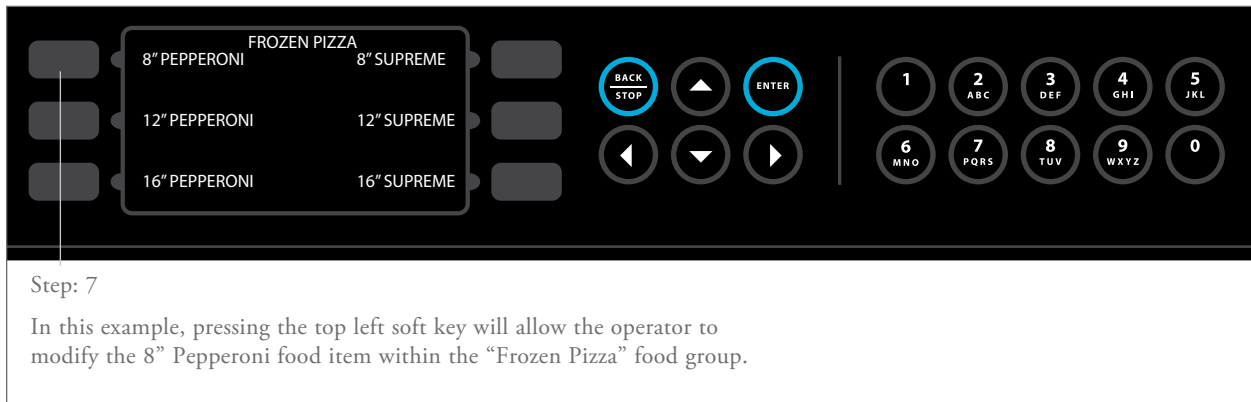

FIGURE 19: Modifying Recipes – Step 7
7. Select the food item to be modified (Figure 19).